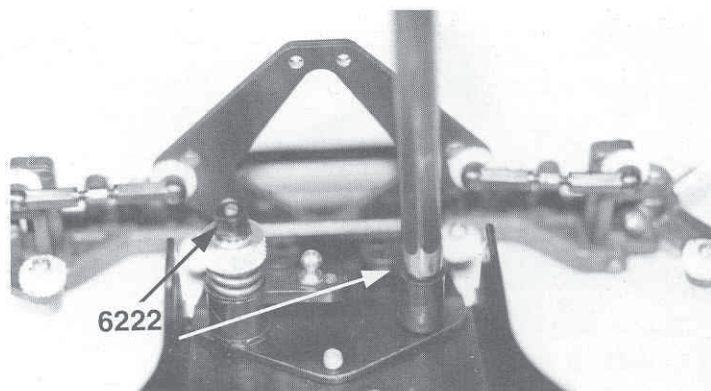

Fig. 29
□ **Fig. 29** 1) In order to install the servo saver assembly you will need to start with the left side. Turn the assembly to the right. Slide the arm assembly down over the long mounting screw. When the arm is at the bottom of the screw, rotate it to the left so that you can install the right bellcrank assembly over the short screw. The areas that you have to work around are the front shock strut mounting screw and the left upper servo saver arm. Move the bellcrank around to clear these as needed.